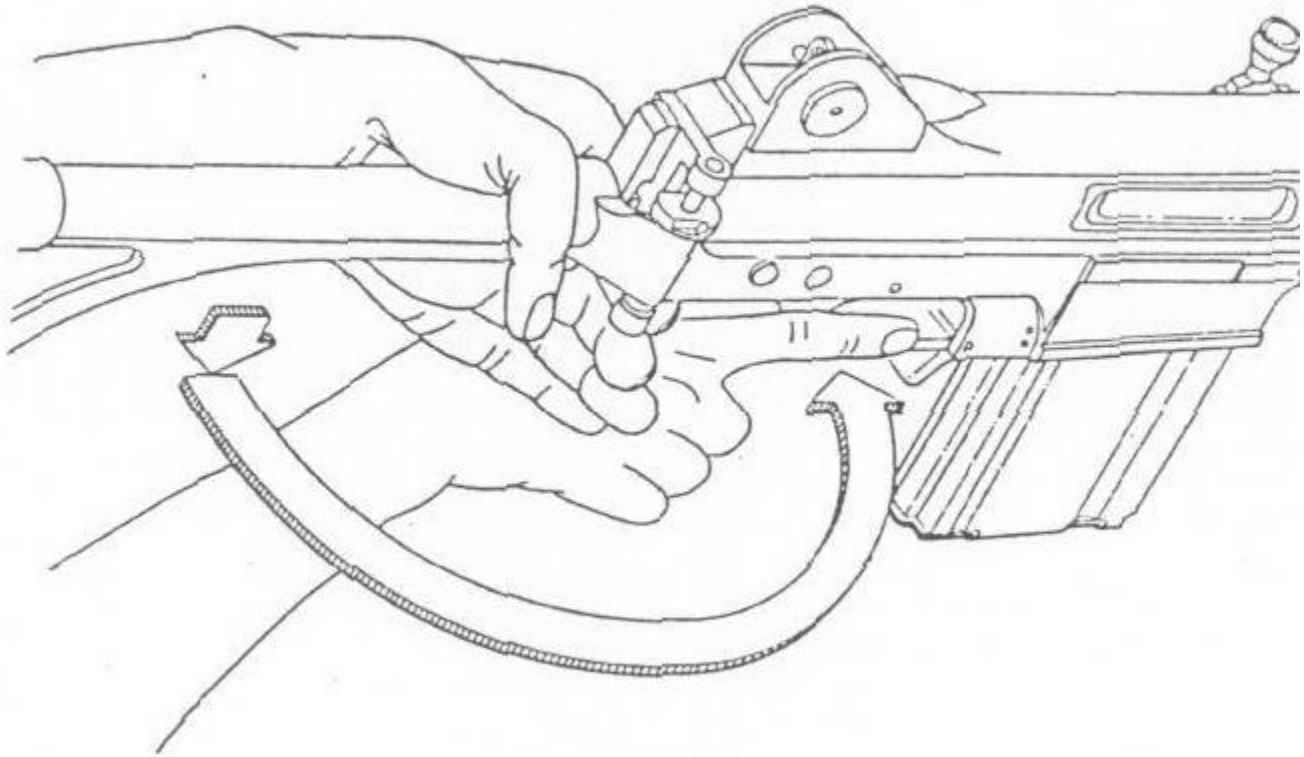

FIGURE 12
2. To fold the stock, place your fingers along the bottom of the lower receiver and place the web of your hand on top of the top of the stock tube. Press down with the web of your hand and pull upward with your fingers to disengage the locking assembly and to lower the cam to the position where it will clear the notch in the lower receiver. When the stock has been lowered to this position on the stock hinge pin, swing the stock towards the side of the rifle that has the ejection port. Lay the stock along the receiver as closely as possible. The cam will retain the stock in this position until physically released. (See Figure 12)